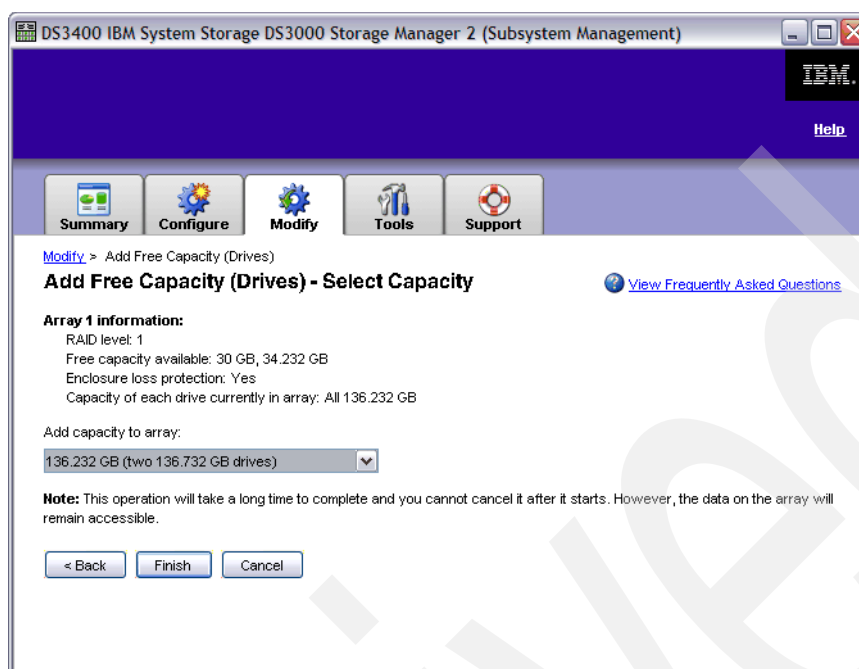

Figure 11-22 Select capacity
3. The **Select Capacity** view will appear (Figure 11-22), showing a summary of the array.